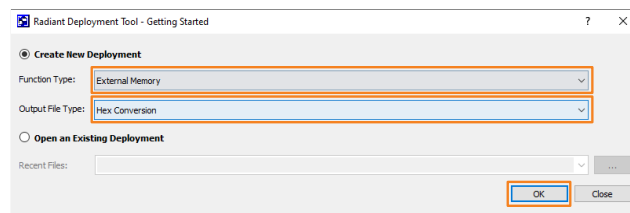

Figure E.4. Fail Safe Bitstream Conversion: Launch Deployment Tool
2. Select **Function Type** as **External Memory** and the **Output File Type** as **Hex Conversion**, as shown in Figure E.4. Click **OK**.